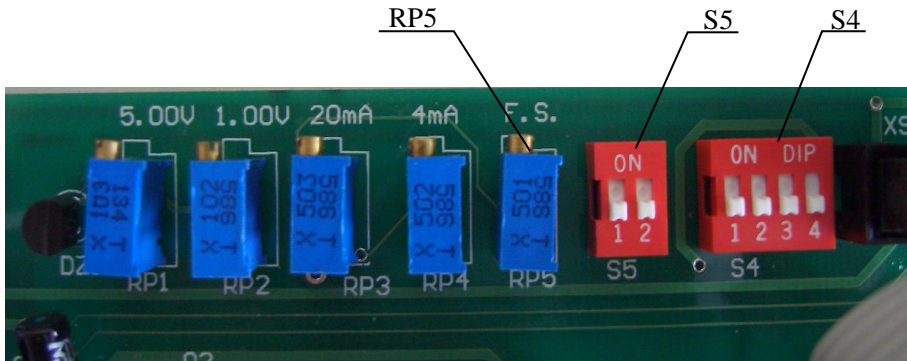

Figure 6. Switches & Potentiometer Positions
Flow rate unit indication & range should be based on MFC (MFM). Normally, we set it before it come to the users. If user wants to change its ranges before operating, you could adjust flow range and unit by related switch and potentiometer after open its overall. The related switch and potentiometer are showing in figure 6.
- c. Connecting to power supply, after 20 seconds, for the display value, it could be adjusted potentiometer RP5 (showing in figure 6) by screwdriver to match the same full scale value of bypass (Please be attention, the display data range is 0~1999 of corresponding 3 and 1/2 digital voltage meter and simultaneously matching position of radix point.)